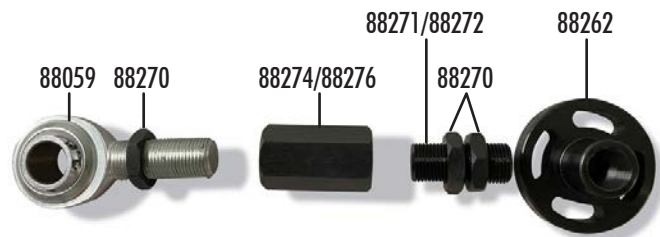

FIGURE 24—88059, 88270 (3 pc), 88274/88276, 88271/88272, & 88262.
- A. Collect all of the rear, bar-feeder support assembly parts (see Figure 24).